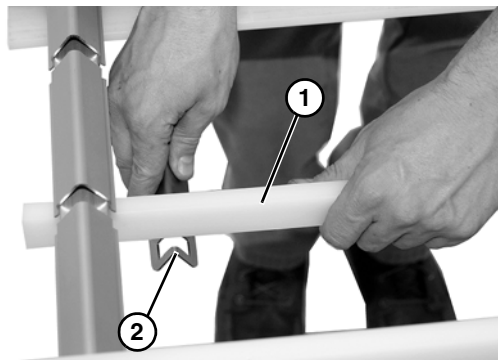

Figure 36
1. Remove return strips (**Figure 36, item 1**), from brackets (**Figure 36, item 2**).